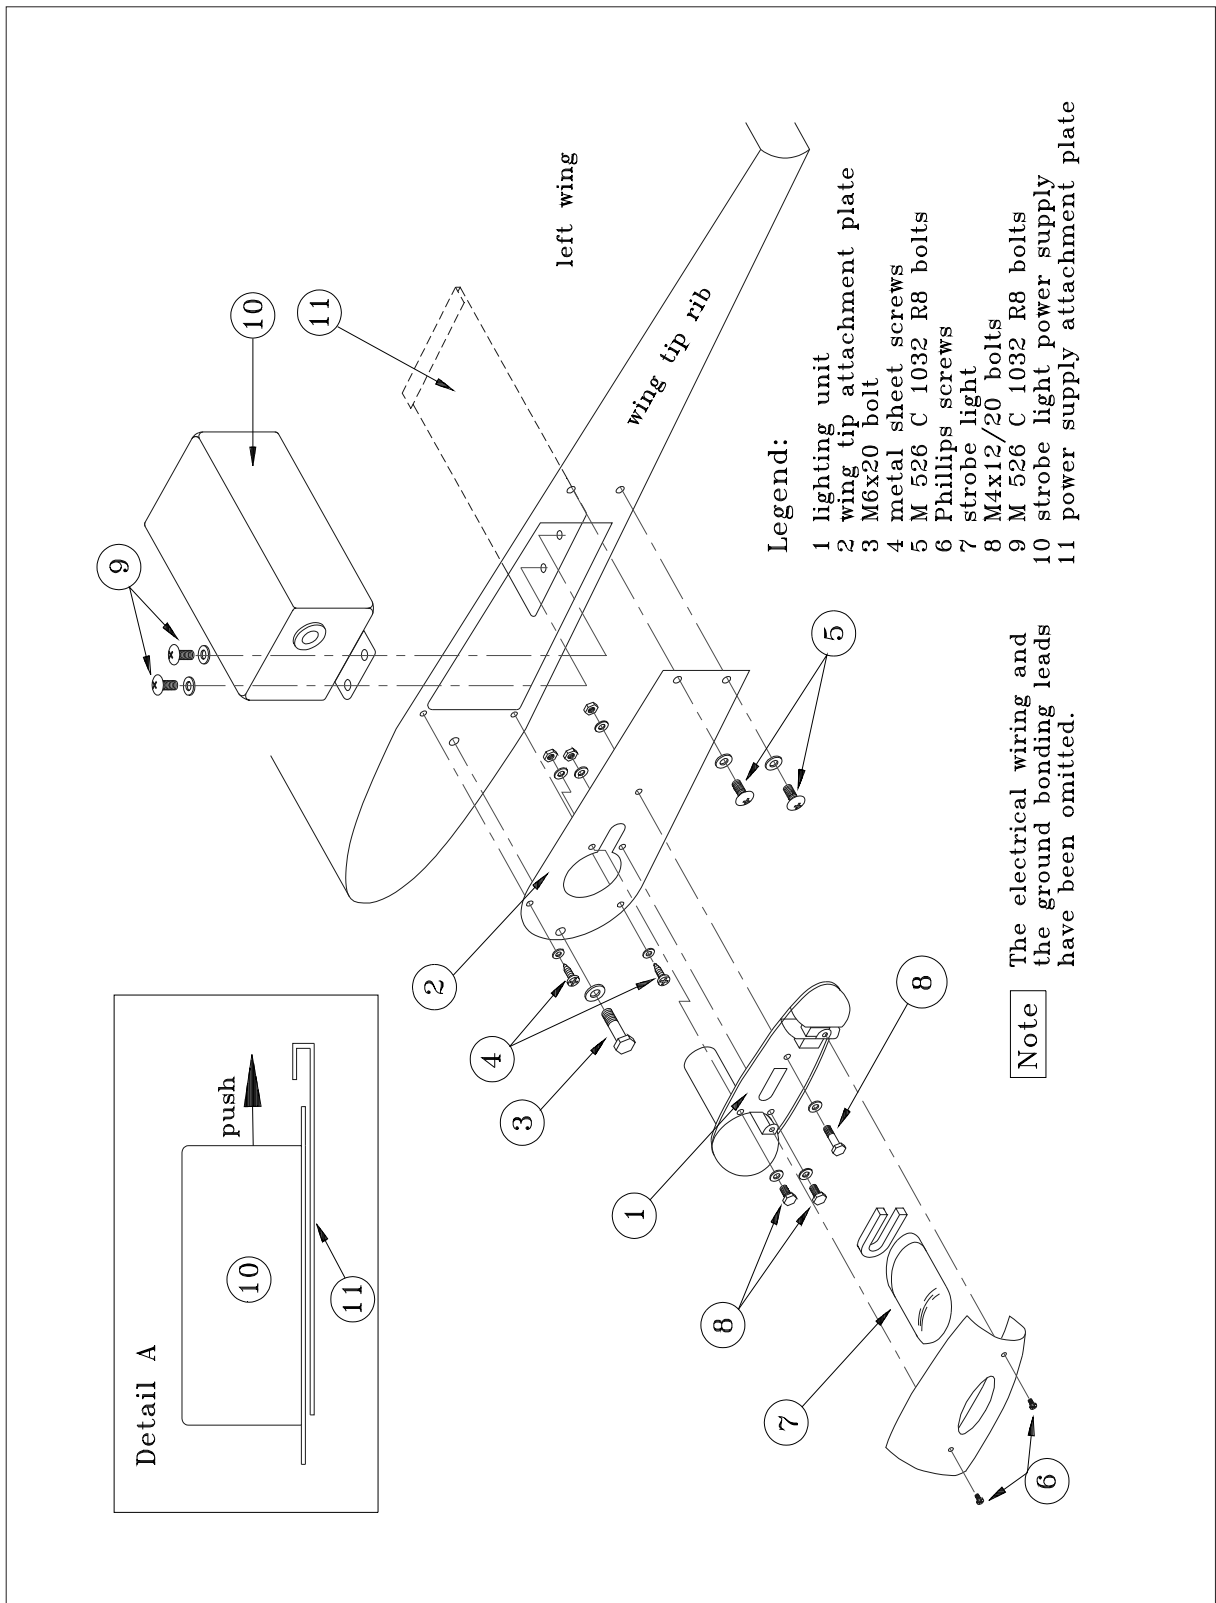

Figure 1
Refer to figure 1. The lighting units (1) installed at the wing tips incorporate the red or green navigation lights on the forward section, a strobe light in the center and a clear tail position light on the aft section. They are mounted on the wing tip panel (2). The strobe light power supplies (10) are mounted on special attachment plates (11) inside the wing.
Refer to figure 1.
Refer to Figure 1.
- 5 Install in reverse sequence of removal observing Detail A of figure 1 when attaching the power supply on the attachment plate (11).